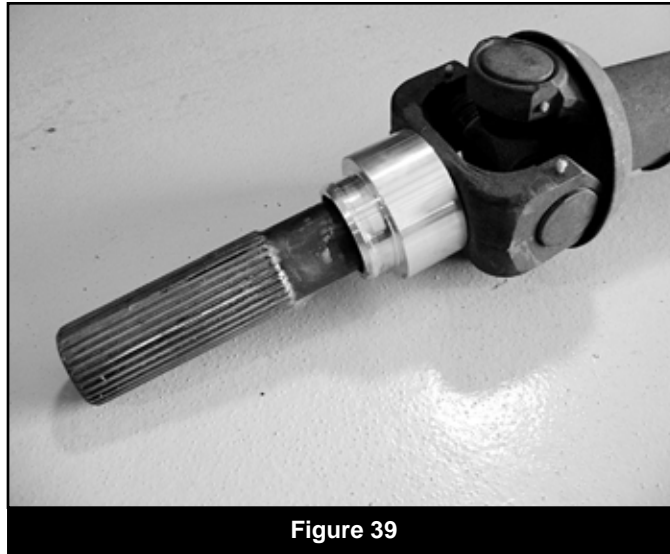

Fig 38A
57. Locate the new steering knuckles and identify the driver's and passenger's side. Install the appropriate knuckle on the lower control arm and fasten with the original lower ball joint nut. Swing the knuckle up and attach to the upper ball joint with the original nut. *Narrow Track Knuckles: Install the provided "L" shaped brake line bracket (02330) to knuckle with the upper ball joint nut. Position the bracket so the long tab is toward the rear of the vehicle (Fig 38A). Torque the upper ball joint nut to 37 ft-lbs and the lower ball joint nut to 74 ft-lbs (Fig 34A).*